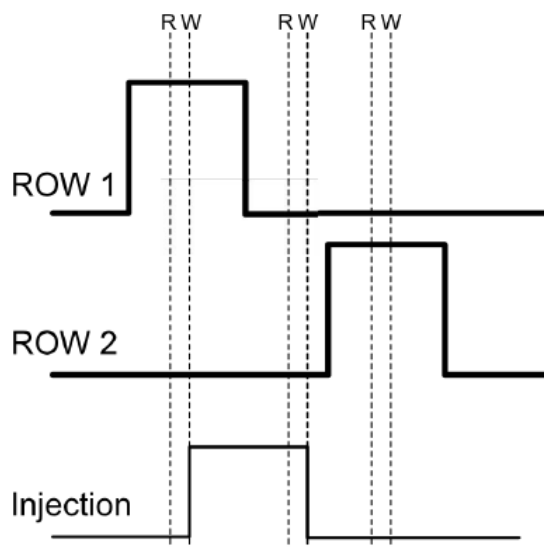

Figure 2: the injection signal turns off before the next row read
- In figure 2 however, the host devices turn off row 1 and simultaneously turn on row 2. When uniMatrix reads the signals for ROW2, its injection signal has not turned off yet. The result is an incorrect reading. In such a case, sending a note to uniMatrix will result in a different note being returned from uniMatrix via MIDI.